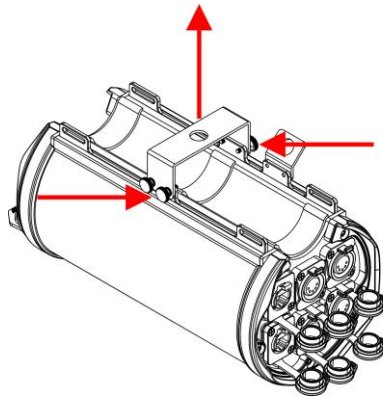

Fig. 07
- 01) Loosen the **mounting bracket thumbscrews (17)** and remove the **mounting bracket (15)**, as shown in Fig. 07.